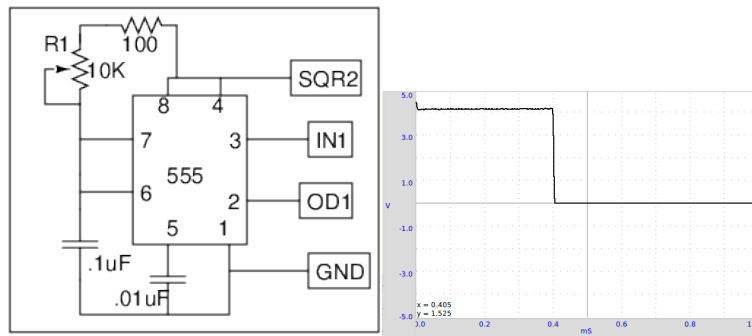

Figure 4.8: IC555 monostable multi-vibrator. (a) schematic (b) Output waveform
**Observation** The output of the circuit is shown in figure 4.8(b). Enabling LTP on OD1 sets it HIGH and generates a 1 microsecond pulse just before capturing the output. For more accurate results use `ltpulse2ftime(10,3)`, that will measure the delay from a pulse given on OD1 to the falling edge on IN1.